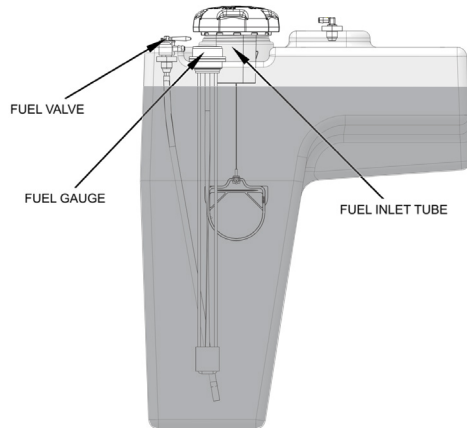

Figure 6-11. Fuel Fill Level
8. Do not fill above the bottom of the fuel tank neck to allow for the expansion of fuel. See Figure 6-11.